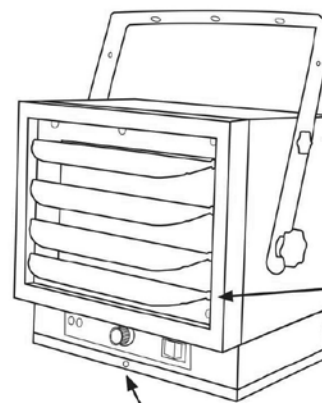

Figure 5
3. Aim the heater horizontally or tilted by aligning the upper bracket holes with the top threaded holes on the heater and secure with the small knob-screws and tighten all. See **Figure 5**.
2. **Tilt the unit**—Loosen the top Small Knob-Screws and thread into provided holes in heater until tight. See **Figure 5**.
3. **Adjust the louvers** in front of the heater as desired. See **Figure 5**.